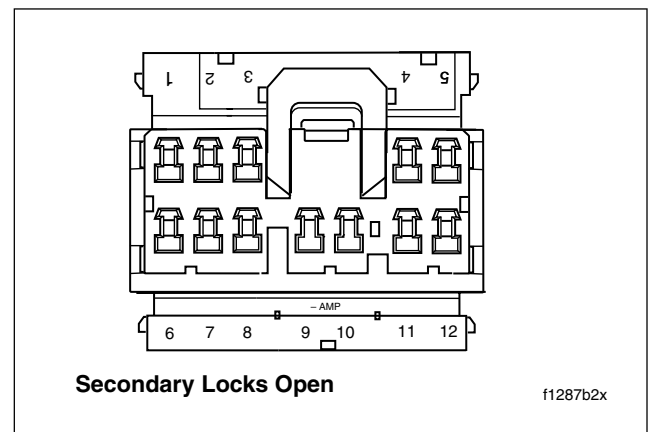

Figure 8-82. Numbers Stamped on Secondary Locks (Socket Housing Shown)
9. Follow the wires of the faulty switch to the socket housing, or reference Figure 8-82 and Table 8-13 for the applicable chamber numbers. For wire location purposes, numbers are stamped into the secondary locks of both the pin and socket housings.